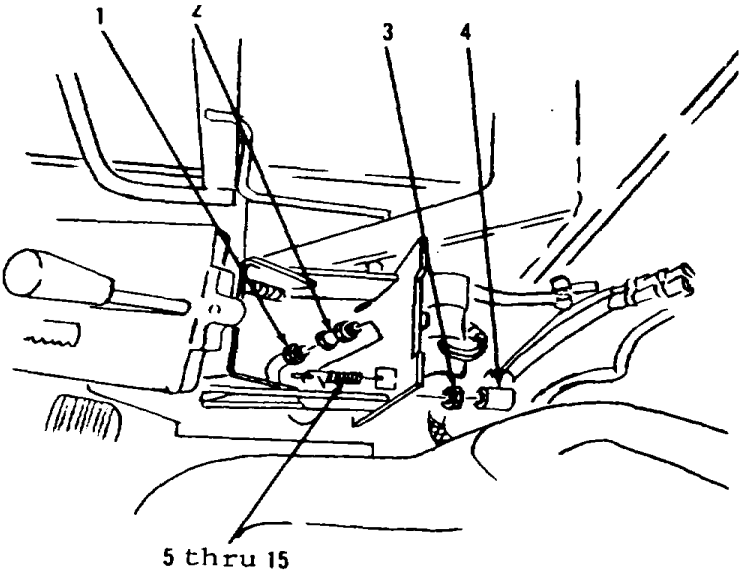

Figure 6-8.
- 1. Disconnect hose assembly (1, Figure 6-8) from control console in operator's compartment.
- 2. Remove connector (2).
- 3. Remove nut (3), boot (4) and items 5 thru 15 as an assembly.
1. Install items 15 thru 5 as an assembly, boot (4) and nut (3, Figure 6-8) in control console in operator's compartment.